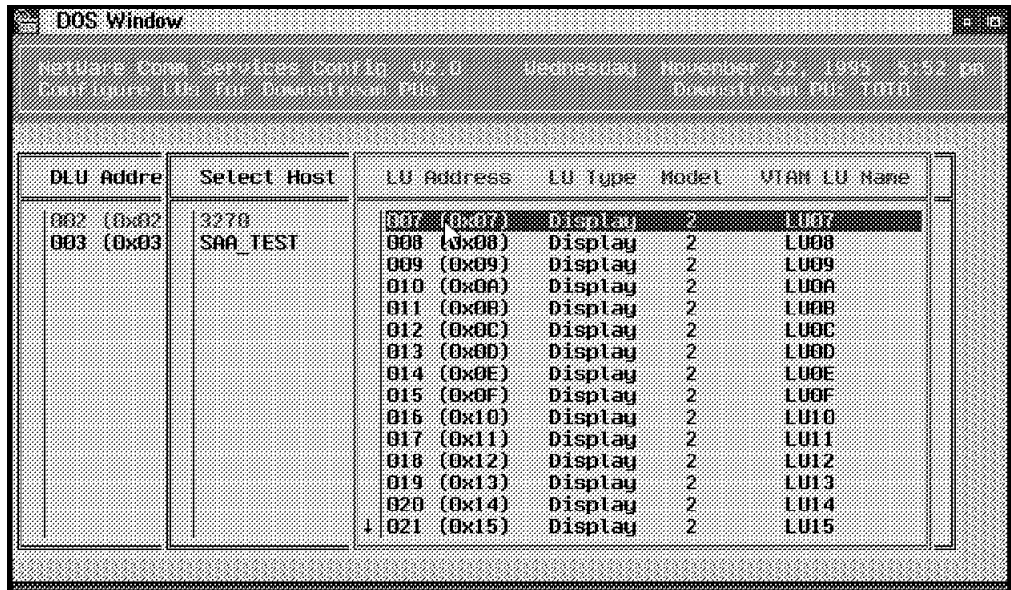

Figure 220. Configuring Downstream PUs - Mapping LUs 2/3
19. The list of available LUs appears as shown in Figure 220 on page 214. Highlight the one you want to select and press Enter.